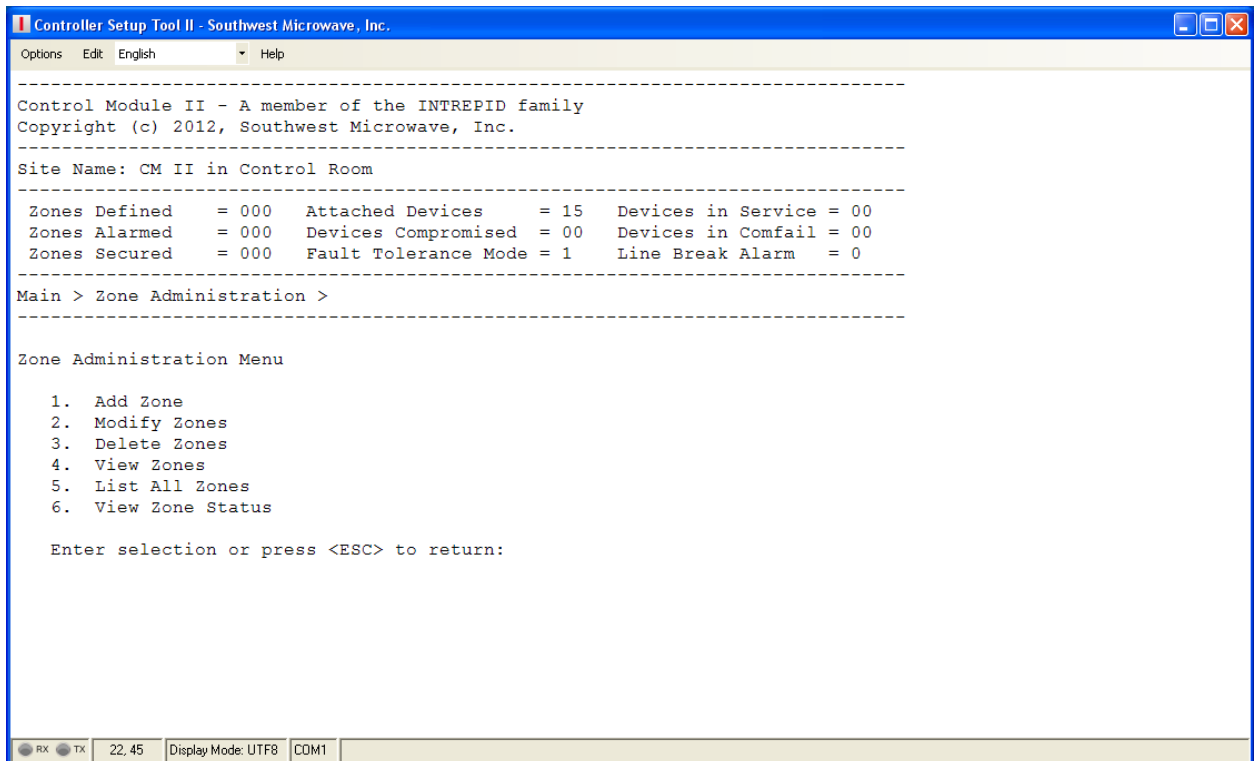

Figure 33 – Zone Administration Screen
Selecting “3” from the Main Menu will open the “Zone Administration” menu as shown in Figure 33. There will be six (6) command selections available:
To enter an input, a prompt will be displayed to enter the Input Line Number (1-4) as shown in Figure 33. These can be selected in any order and gaps can be left in the table if desired. Select the desired number and press ENTER.